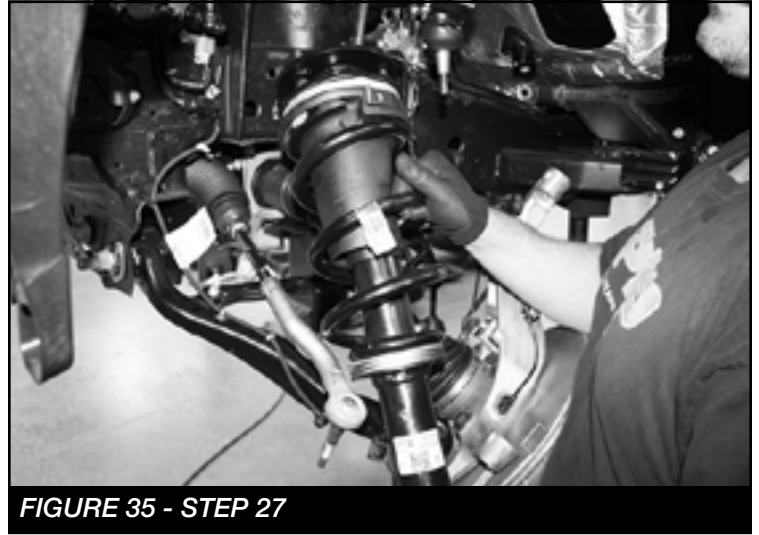

FIGURE 35 - STEP 27
27. Install the coil over into the upper shock mount using the supplied 7/16" Nylock nuts and washers. Leave loose at this time. **SEE FIGURE 35**